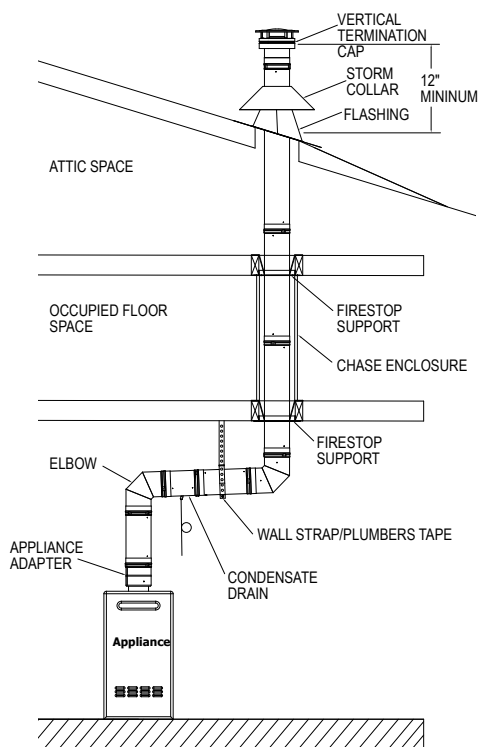

Figure 6
- 4. Install Firestop Support(s).** At each framed floor opening, install a Firestop Support. The Firestop Support is listed to support up to 40-ft of CVS vent pipe. The Firestop Support is installed from underneath the opening, held in place by (4) 1-1/2" wood screws in the corners (Fig 6). From the other side, extend the straps of the Firestop Support and secure them to nearby framing members with additional 1-1/2" wood screws. As the vent passes through the Firestop Support, install the clamp around the vent and tighten with the screws provided,
so the weight of the vent is supported by the Firestop Support (**Fig 6**).